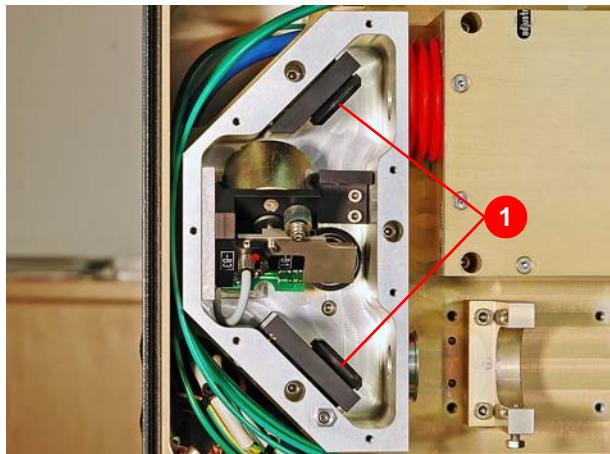

Figure 7.35 Removing the deflecting mirror
5. Unscrew the deflecting mirror (1) (Figure 7.35) and lay it on a clean foundation.